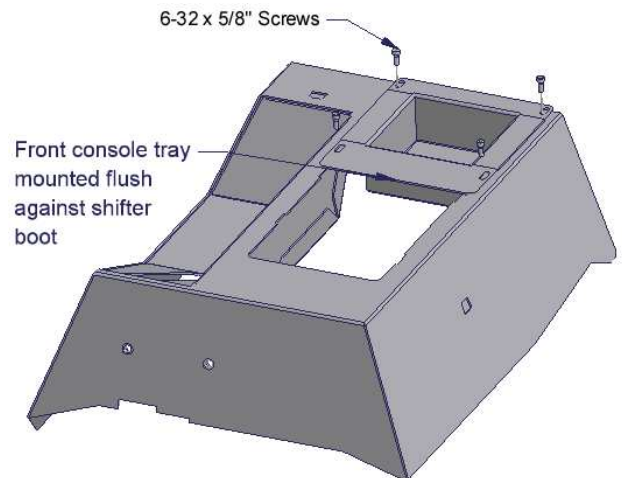

FIGURE 7
38. Place the front console tray in the cutout. Then sandwich the Original shift boot between the Front Console and the 6 Speed Shifter Bracket. Fasten everything down with (4) 6-32 x 5/8" screws (SEE FIGURE 7).